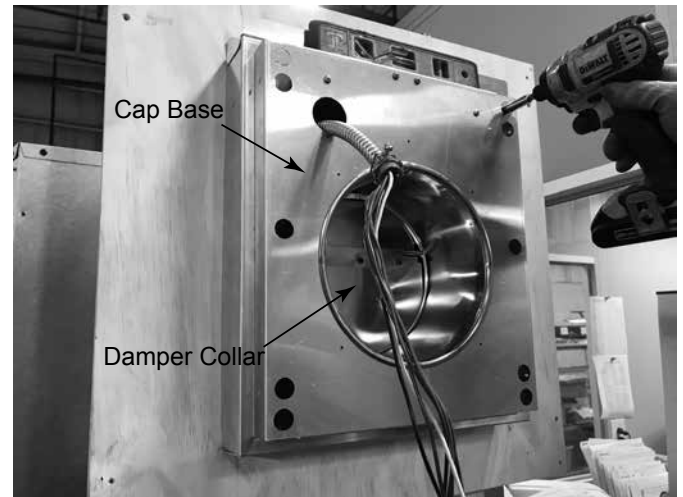

Figure 7.16
- Position the cap base on exterior wall, level, and secure with (4) screws provided. When properly installed, the damper collar must extend into the wall shield a minimum of 1-1/2 inches.. See Figure 7.16.